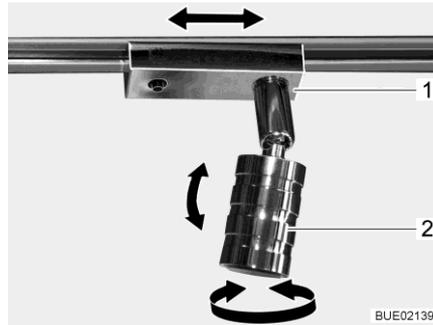

Fig. 62 Spotlight
- Grasp the housing (Fig. 62,2) and turn it.
- Grip socket (Fig. 62,1) and turn by approx. 45°.
- Grip socket (Fig. 62,1) and turn by 90°.